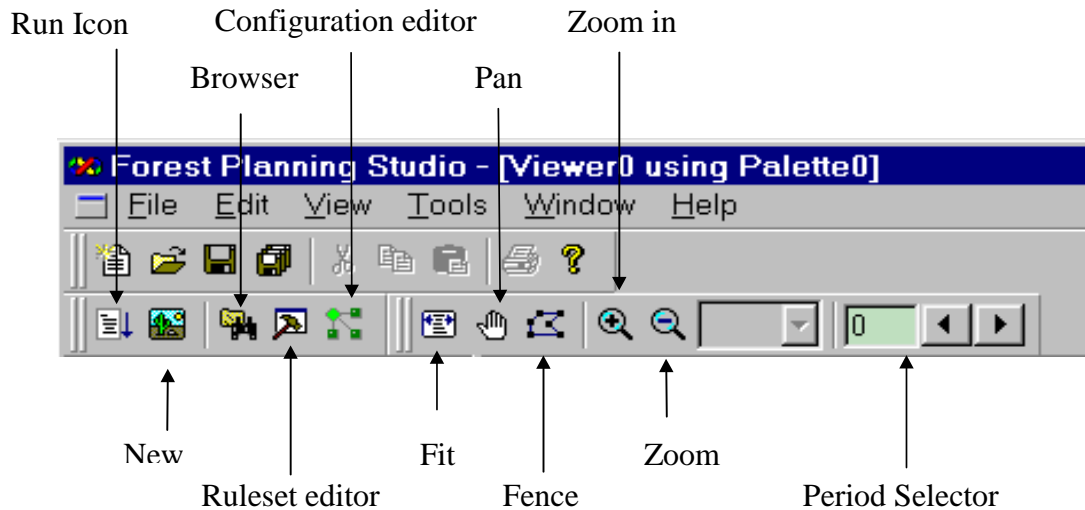

Figure 3: FPS toolbar icons, layout and names.
Note: You should only have these windows open when you need them, instead use the Toolbar icons to open and close them as needed (Figure 3). Try to not maximize these windows. Maximizing will tend to cover up the other windows that you have neglected to close. This often ends with results seemingly not showing up when in fact they are being hidden. In FPS it is easiest to keep your workspace clean to prevent problems.
- 1.5.1. To view a map of the database, click on the *New Viewer* icon (Figure 3) (it looks like a little cactus in the desert).